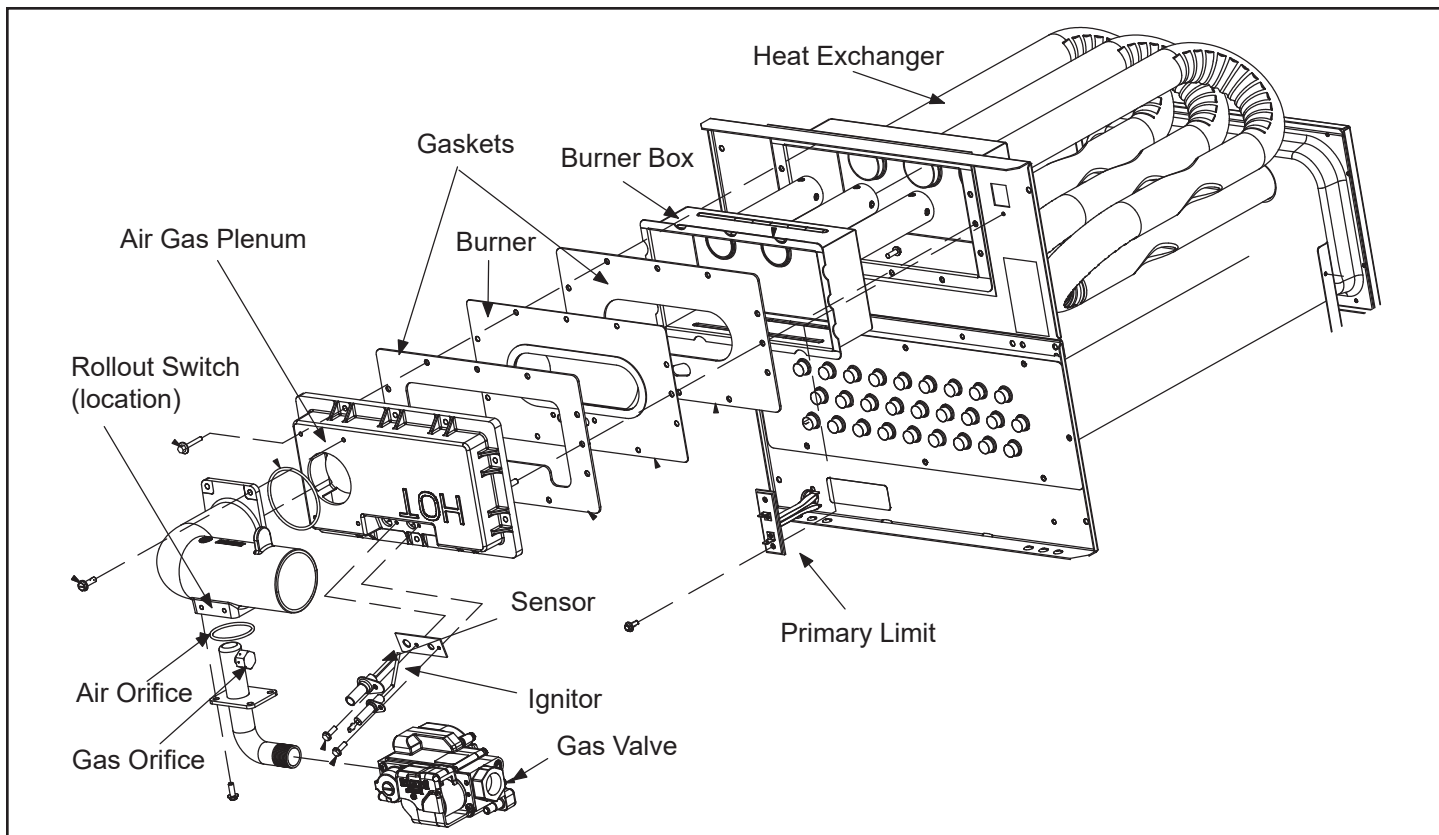

Figure 4. Heating Components
The hot surface ignition control system consisting of an integrated control (Figure 3 with control terminal designations in Table 1 through Table 3), sensor and ignitor (Figure 4). The integrated control and ignitor work in combination to ensure furnace ignition and ignitor durability. The integrated control, controls all major furnace operations. The integrated control also features a RED LED for troubleshooting and two accessory terminals rated at (1) one amp. See Table 4 for troubleshooting diagnostic codes. The nitride ignitor is made from a non-porous, high strength proprietary ceramic material that provides long life and trouble free maintenance.
The auto-reset switch is located on the front of the air gas intake. The switch will safely shut the unit down if excessive temperatures are detected. When the switch senses excessive temperature, the circuit breaks and the ignition control immediately stops ignition and closes the gas valve. See Figure 4.
Burners are factory set and require no adjustment. Always operate the unit with air gas plenum in place. The burner has one orifice located between the gas valve and the air intake assembly (Figure 4). To check or replace the orifice remove the black iron inlet pipe from the gas valve then remove the four screws securing the gas valve to the intake air pipe. The orifice is located in the orifice housing. The burner uses an orifice (see Table 5) that is precisely matched to the burner input. The burner can be removed for service. If burner has been removed, it is critical to replace all gaskets.
A flame sensor is located on the top of the air gas plenum. The sensor can be removed for service without removing the burner. During operation, flame is sensed by current passed through the flame and sensing electrode. The SureLight control allows the gas valve to remain open as long as flame signal is sensed. To check flame sense signal use the push-button found on the integrated control and go to Field Test Mode. The menu will display the flame signal. See Table 6 for flame signal. See Figure 4.
NF95XS units use a nitride ignitor made from a proprietary ceramic material. To check ignitor, measure its resistance and voltage. A value of 39 to 70 ohms indicates a good ignitor. Voltage to the ignitor should be 102 - 132VAC. See Figure 6 for resistance and voltage checks. See Figure 4.